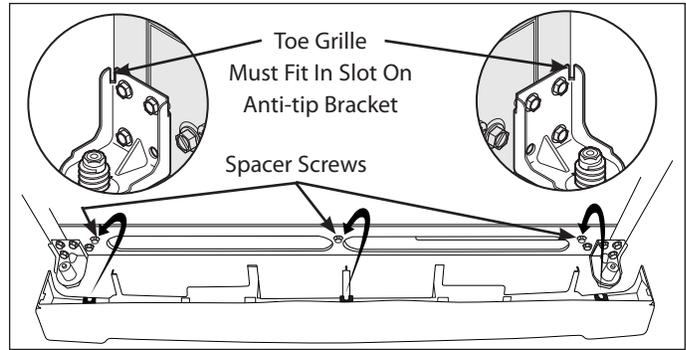

Figure 6-24.
2. Tabs lock into place in slots on outside edge of the anti-tip bracket. (See Figure 6-24)